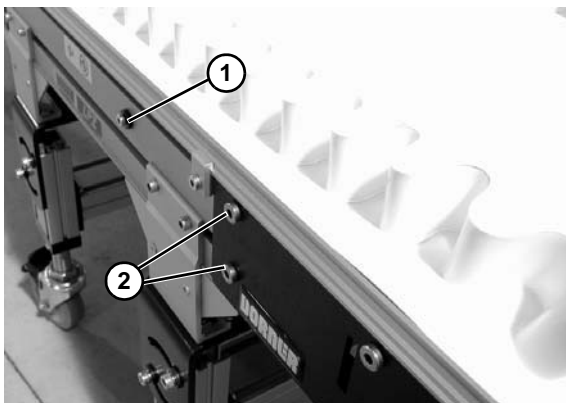

Figure 42
1. Ensure tensioning racks are extended and touching the idler pulley headplates: loosen the pinion locking screw (Figure 37, item 1) and rotate the pinion torque screw (Figure 38, item 1) clockwise until contact with the head plate is made, then tighten the pinion locking screw (Figure 42, item 1) to 69 in-lb (7.8 Nm)
2. On the side of conveyor to be adjusted, loosen two (2) tail clamp screws (Figure 42, item 2).